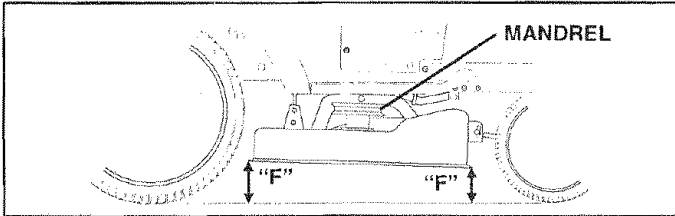

FIG. 21
**FRONT-TO-BACK ADJUSTMENT** (See Figs. 21 and 22) - **IMPORTANT:** DECK MUST BE LEVEL SIDE-TO-SIDE. IF THE FOLLOWING FRONT-TO-BACK ADJUSTMENT IS NECESSARY, BE SURE TO ADJUST BOTH FRONT LINKS EQUALLY SO MOWER WILL STAY LEVEL SIDE-TO-SIDE. To obtain the best cutting results, the mower housing should be adjusted so the front is approximately 1/8" to 1/2" lower than the rear when the mower is in its highest position.